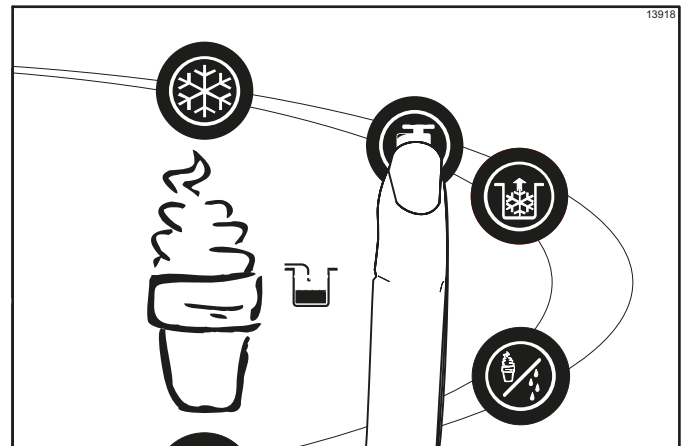

Figure 6-37
2. With a pail beneath the door spouts, raise the prime plug and press the Wash symbol . (See Figure 6-37.)